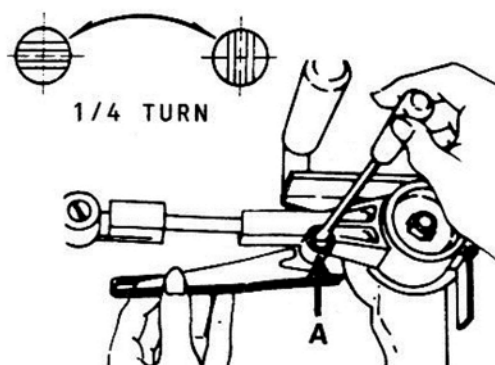

Figure 9
3. Turn shoe holder (A, Figure 9) a quarter of a turn with screwdriver to release shoe.